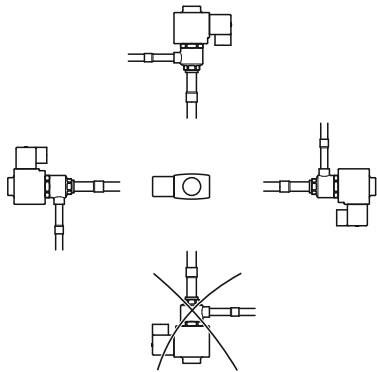

Fig.3. Spatial position
- The design of the valve provides the possibility of its installation in any position, except for the position of the coil down (fig.3).